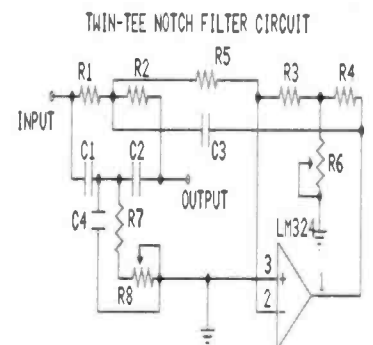

Fig. 2—*CompDes* will also provide an exact hardcopy printout of the circuit as it appears on the screen.
The add-on circuit in Fig. 2 shows
**Fig. 2—The addition of this subassembly to the circuit shown in Fig. 1 (connected with the base and collector leads criss-cross connected to the input of the control circuit) prevents the simultaneous triggering of U2 and U3.**
Another plus for the new version of *CompDes* is that it will provide a hardcopy of the screen display. Figure 2 is the hardcopy from an IBM/EPSON printer. Compare it with the screen dis-
the wonderful but thin manual shows all the needed circuits. You can simply photocopy or redraw the circuit from the manual and plug in the displayed values. If you can display graphics, you can make a large screenprint of the circuit, as shown in Figs. 2 and 3.